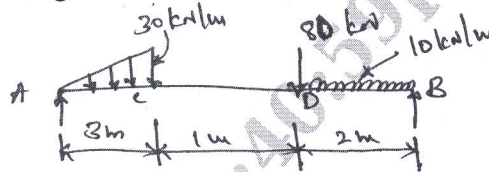

Fig. Q6 (b)
- b. A simply supported beam AB of 6 m span is loaded as shown in Fig. Q6 (b). Draw the shear force and bending moment diagrams. (15 Marks)